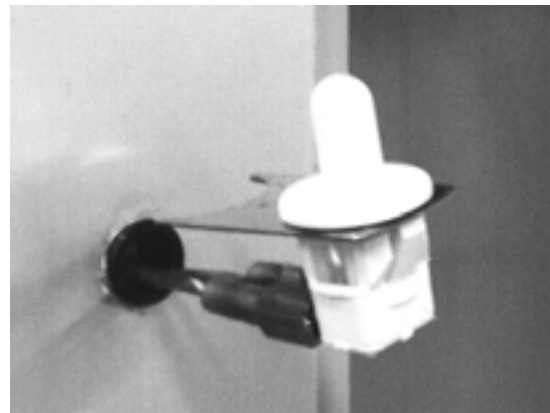

Figure 4-12
3. Remove the (3) hinge mounting screws and carefully pull the hinge flange from the cabinet front.
4. Slide the light switch and switch retainer from the hinge. Unplug the switch (Figure 4-12).